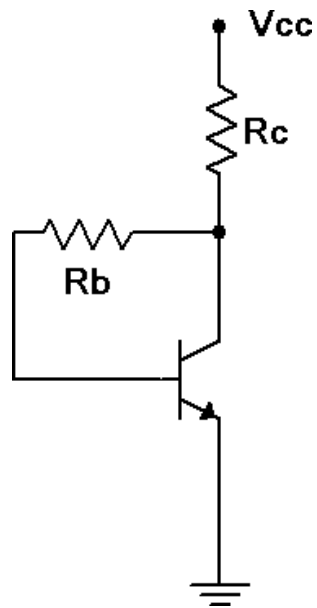

Figure 1
1. Consider the circuit of Figure 1 using  $V_{cc} = 12$  volts,  $R_b = 220\text{ k}\Omega$  and  $R_c = 1\text{ k}\Omega$ . Determine the ideal end points of the DC load line and the Q point, and record these in Table 1.
3. Build the circuit of Figure 1 using  $V_{cc} = 12$  volts,  $R_b = 220\text{ k}\Omega$  and  $R_c = 1\text{ k}\Omega$ . Measure the base, emitter and collector voltages and record them in the first row of Table 2 (Experimental).